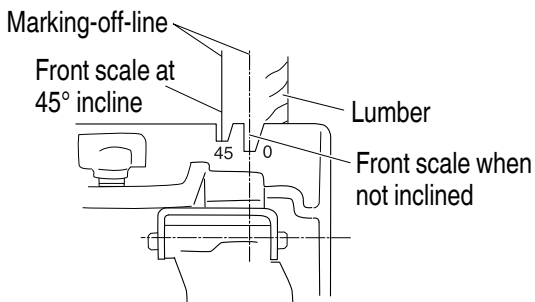

Fig. 7
- Place the saw body (base) on the lumber, and align the cutting with the saw blade at the front scale (**Fig. 7**).